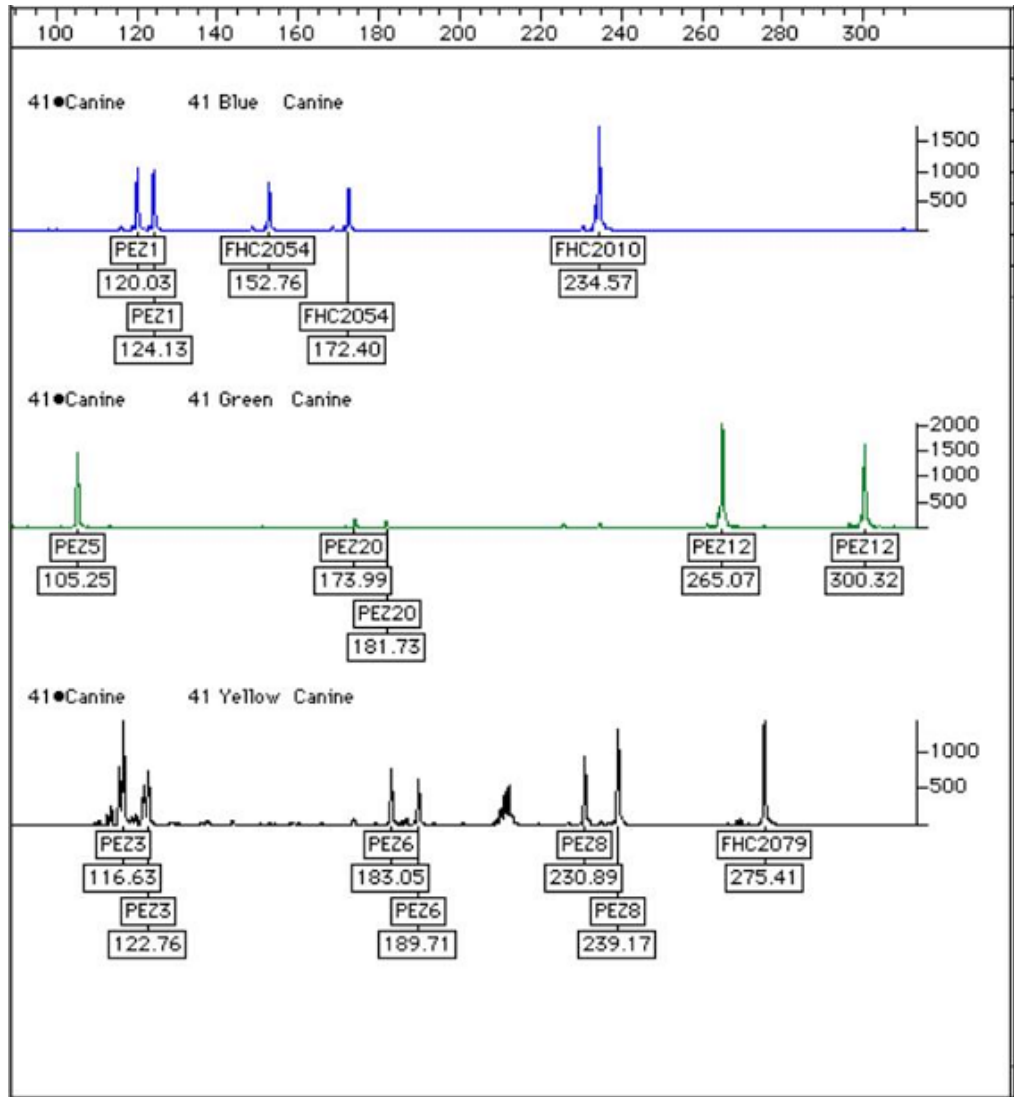

Figure 9 Genotyper™ software analysis of PCR amplification products using canine control DNA and separated on an Applied Biosystems® 377 DNA Sequencer
- Applied Biosystems® 377 DNA Sequencer (Figure 9 on page 37)